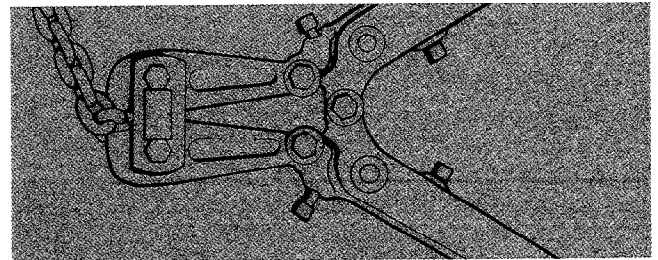

Figure 22. Cutting Chain with a Bolt Cutter
- Use a bolt cutter (Figure 22) similar to the H. K. Porter No. 0590MTC with special cutter jaws for cutting hardened chain (1” long cutting edge).